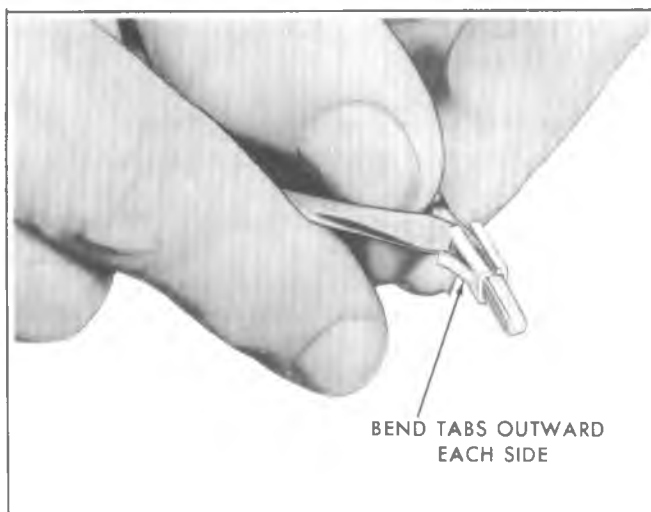

Fig. 3B4-71--Preparing Wire Retaining Tabs for Installation
5. Bend the wire retaining tabs slightly outward on each wire in the wiring harness as shown in Figure 3B4-71; this will provide proper retention of the wire in the half-moon connector.